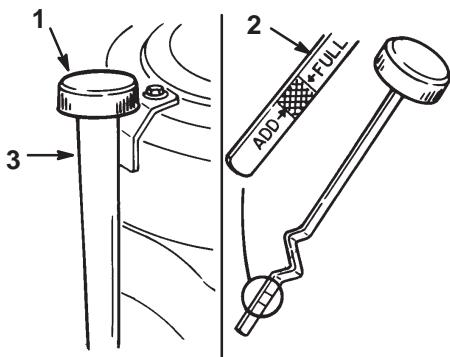

Figure 23
2. Clean around the oil dipstick (Fig. 23) so dirt cannot fall into the filler hole and damage the engine.
3. Unscrew the oil dipstick and wipe the metal end clean (Fig. 23).
4. Slide the oil dipstick fully into the filler tube, do not thread onto tube (Fig. 23). Pull the dipstick out and look at the metal end. If oil level is low, slowly pour only enough oil into the filler tube to raise the level to the "FULL" mark.
5. Slowly pour approximately 80% of the specified oil on page 25, into the filler tube (Fig. 23). Now check the oil level; refer to Checking Oil Level, page 25. Slowly add additional oil to bring to "FULL" mark on dipstick.